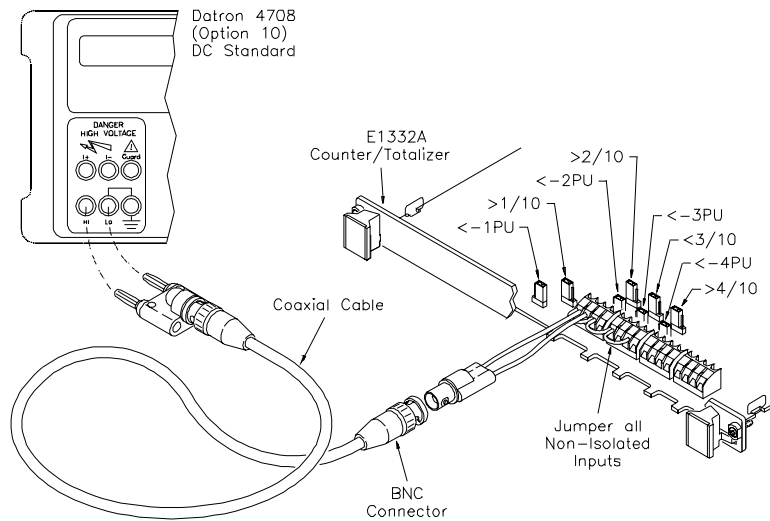

Figure 4-7. Trigger Level Test Setup
1. Connect the equipment as shown in Figure 4-7.